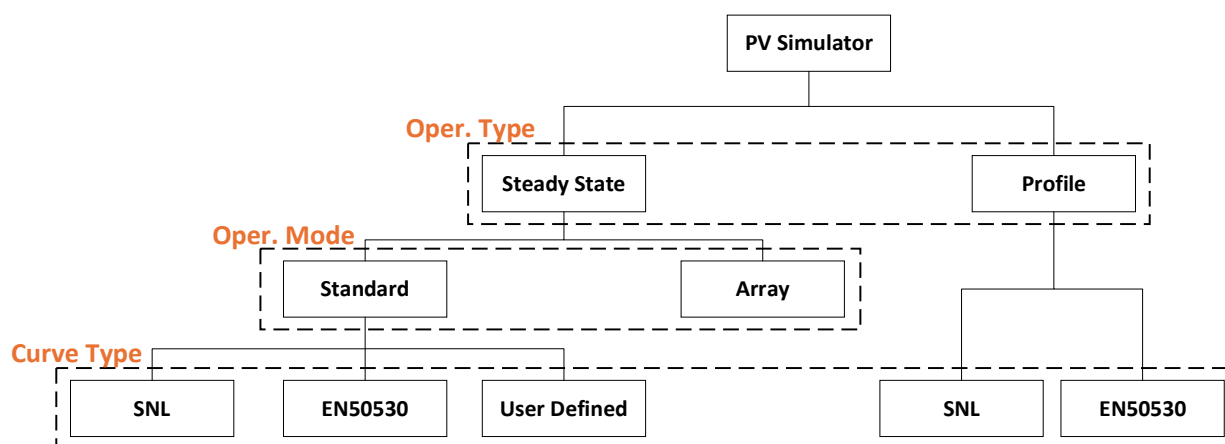

**Figure 11-40. PVSIM mode Selection Setting**
The front panel will not support all the modes in PV Simulator, to operate all the modes Virtual panels can be used. Refer to Figure 11-40 for the available PV Simulator modes and the Table 11-15 for the front panel support. The configuration screen will change based on the user's selection.
| (1) Explanation provided for individual settings, for possible combinations that can be done in PVSIM mode Refer to Figure 11-40. |                                                                                                    |